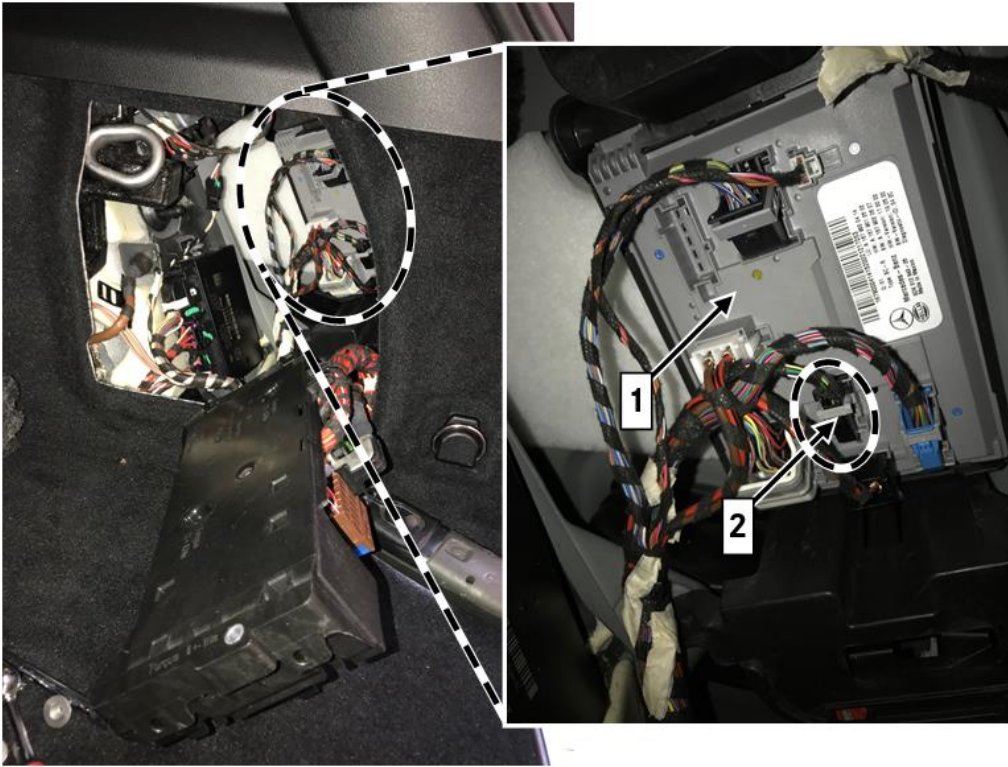
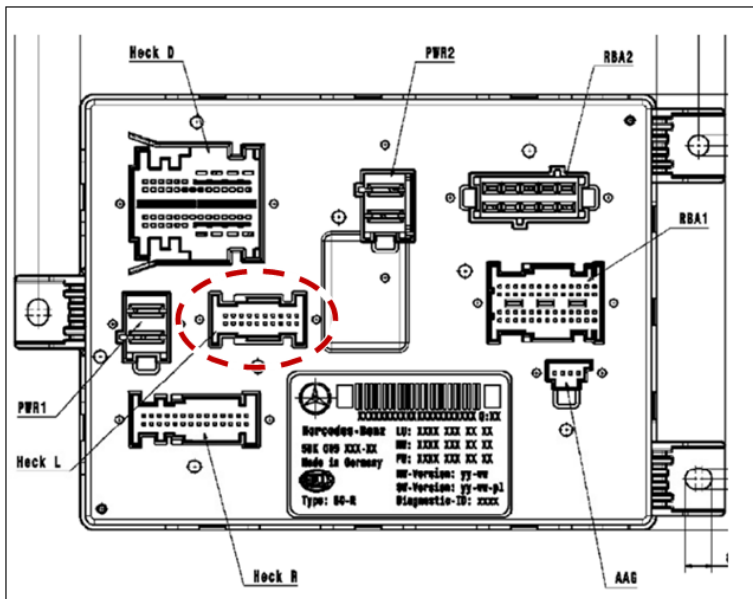

Figure 3
Figure 4
6. Release fuse and relay module and set down with connected lines through service flap in trunk (**figure 3**).
7. Move/wiggle Heck L plug (**2, figure 3 and figure 4**) as well as disconnect the contacts and connect the contacts again.